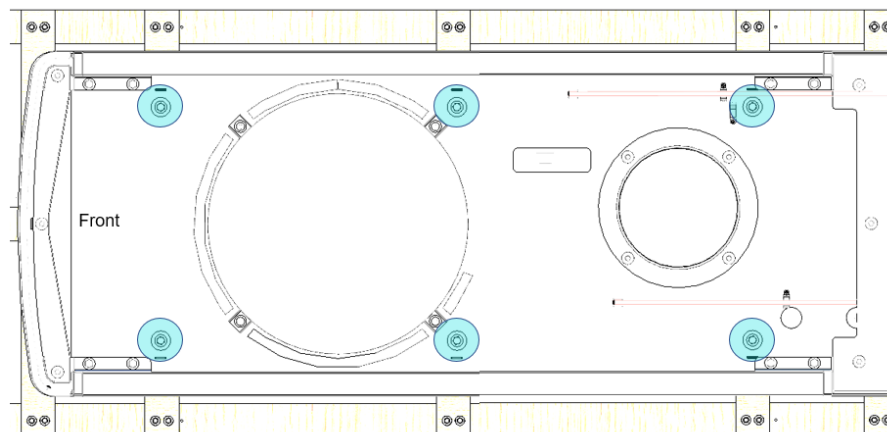

Figure 3-1 – Locations of Lag Bolts to Remove Unit from Wood Pallet.
Inspect the path and all thresholds that unit will move through to ensure appropriate clearance. It is recommended to use the installed pallet to move the Element to the installation site, if possible. The pallet is fastened to the unit with (6) hex-head lag bolts, as shown in Figure 3-1.